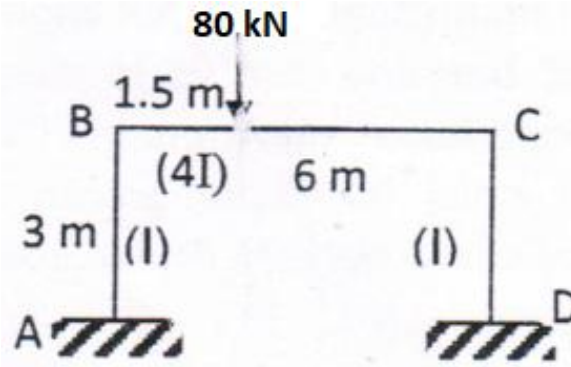

Fig. 4
6. Analyze the frame shown in Fig.4 using kani's method